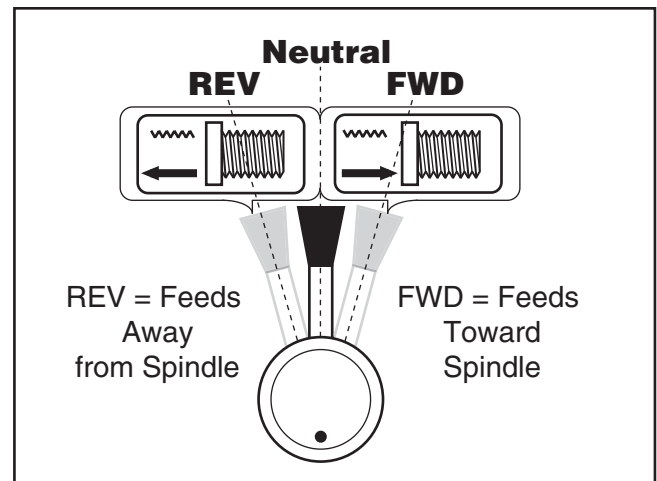

Figure 52. Feed direction lever positions.
2. Move the feed direction lever to the desired longitudinal feed setting indicated by the arrow above the screw thread. Cross feed directions are as follows: when the arrow points left, the cross feed is away from the spindle axis; when arrow points right, the cross feed is towards the spindle axis (see **Figure 52**).